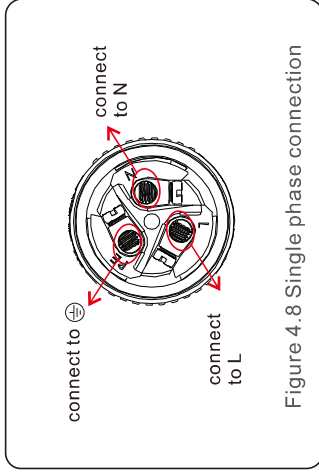

Figure 4.8 Single phase connection
- For single phase inverter installation connect L, N, PE to pin L, N, ⊕ (see figure 4.8).